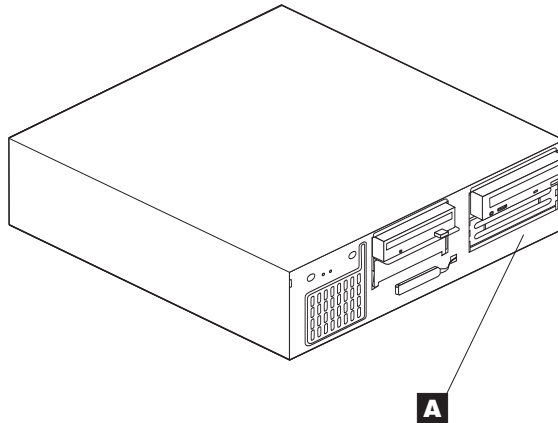

Figure 1-2. Installing Label on the Front Side of the Service Processor
3. Using label (PN 0782966), identify your Service Processor-A or Service Processor-B by sticking the appropriate label **A** on the front side of the unit (see Figure 1-2 on page 1-10).